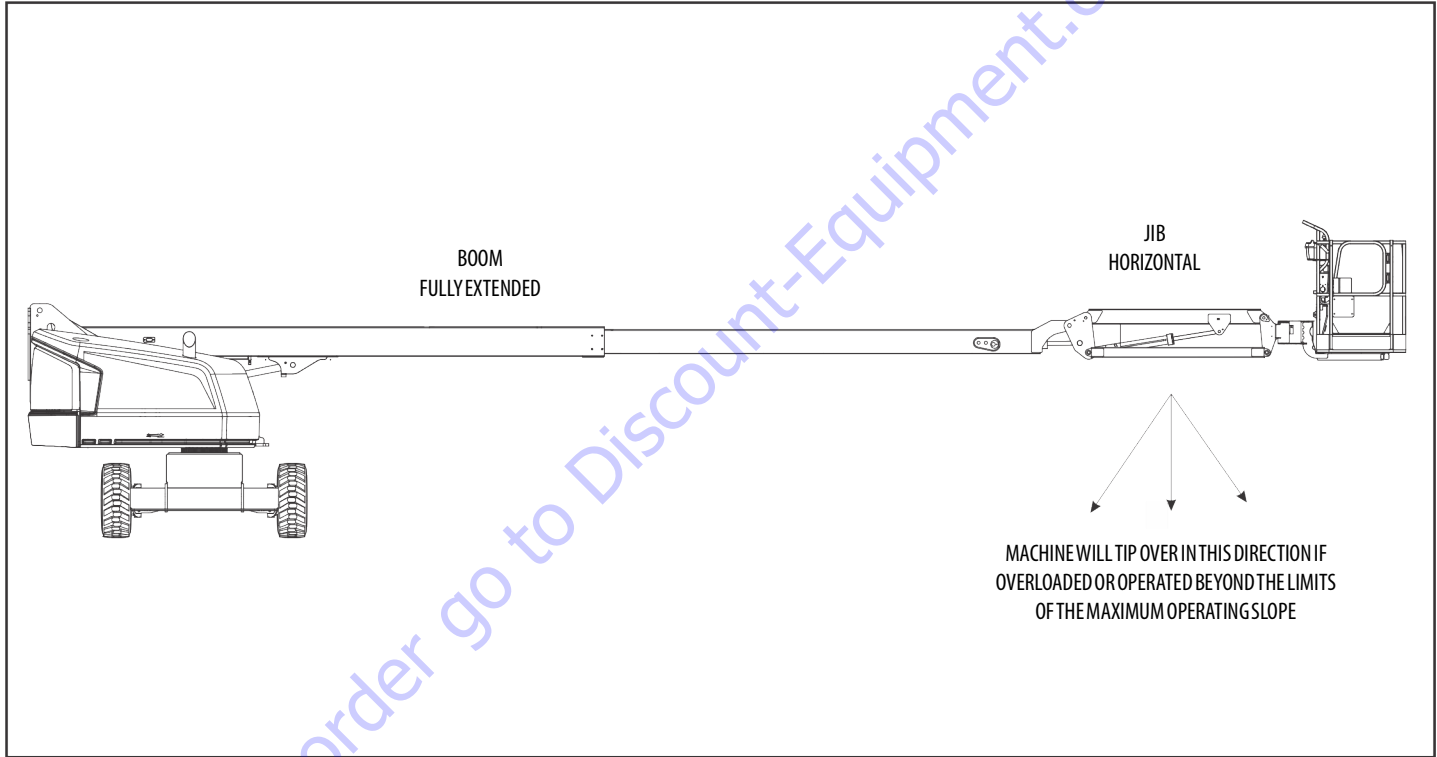

Figure 4-1. Position of Least Forward Stability
Machine stability is based on two (2) conditions which are called FORWARD and BACKWARD stability. The machine's position of least FORWARD stability is shown in Figure 4-1., and its position of least BACKWARD stability is shown in Figure 4-2.